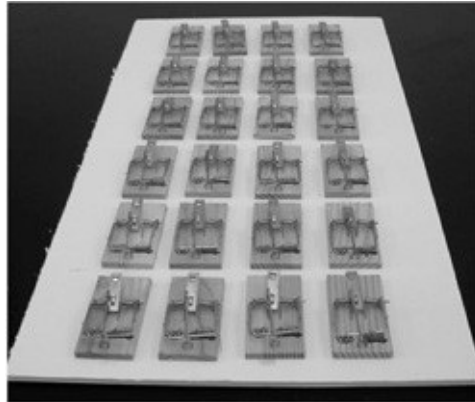

Figure 123-1 *Each mousetrap represents a uranium atom.*
1. Set the traps (Figure 123-1).